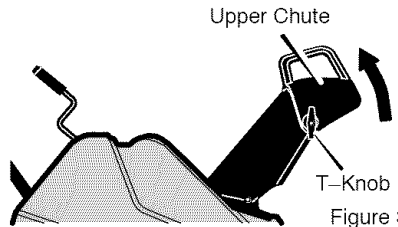

Figure 3
5. Remove the **T-knob** and bolt on the **upper chute** and rotate the **upper chute** to the operating position (Figure 3).